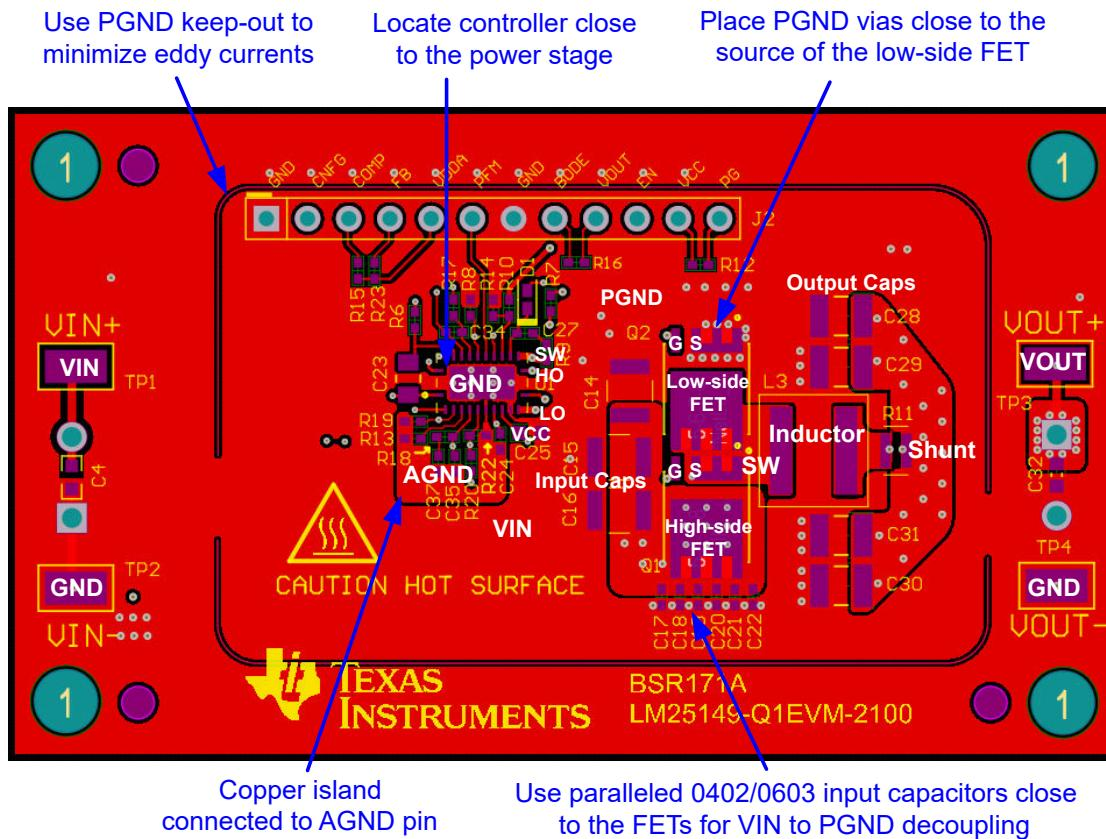

Figure 11-2. PCB Top Layer – High Density, Single-sided Design
Figure 11-2 shows a single-sided layout of a synchronous buck regulator with discrete power MOSFETs, Q1 and Q2, in SON 5-mm × 6-mm case size. The power stage is surrounded by a GND pad geometry to connect an EMI shield if needed. The design uses layer 2 of the PCB as a power-loop return path directly underneath the top layer to create a low-area switching power loop of approximately 2 mm2. This loop area, and hence parasitic inductance, must be as small as possible to minimize EMI as well as switch-node voltage overshoot and ringing.
- Make the ground connections to the LM25148-Q1 controller as shown in Figure 11-2. Create a power ground directly connected to all high-power components and an analog ground plane for sensitive analog components. The analog ground plane for AGND and power ground plane for PGND must be connected at a single point directly under the IC – at the die attach pad (DAP).